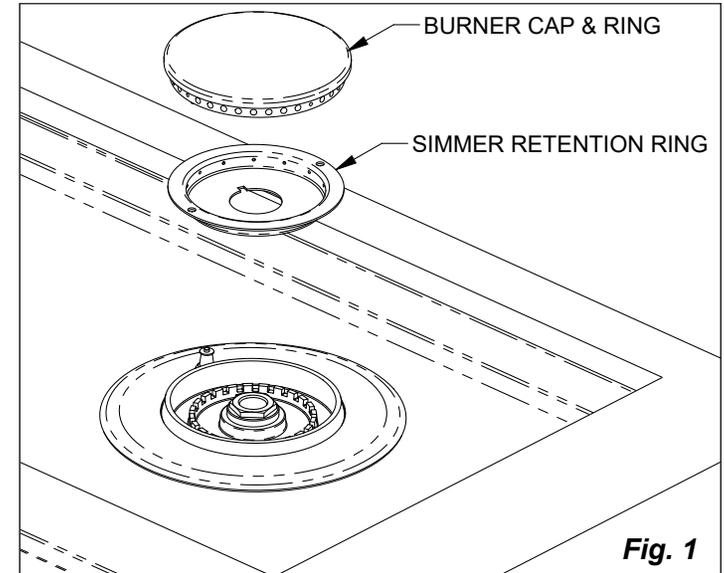

Fig. 1
2. Remove the burner cap and simmer retention ring and set aside. (Fig. 1)